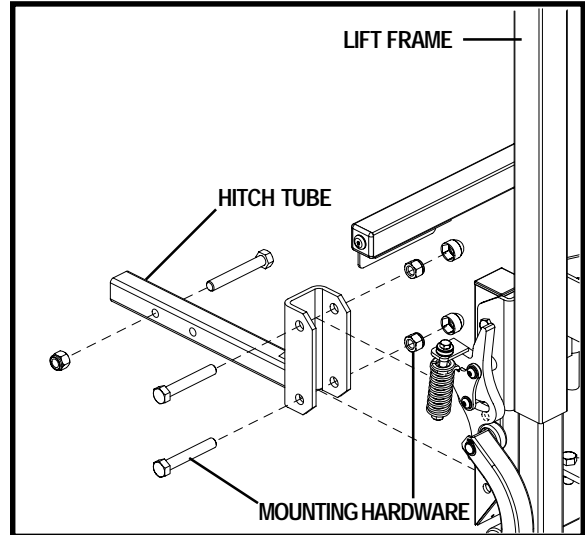

Figure 5. Hitch Tube Assembly
2. Mount the hitch tube to the lift frame using the previously removed mounting hardware. See figure 5.